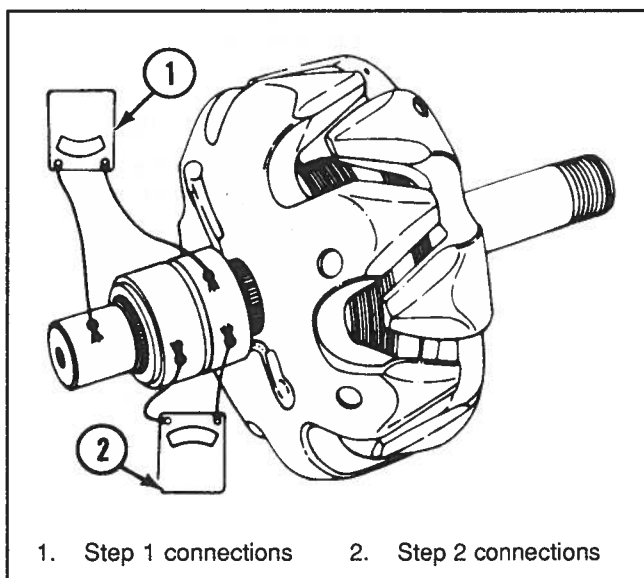

Figure 6-102. Testing Rotor
1. Test rotor-field circuit for grounds, using an ohmmeter set on Rx1 scale as follows (see Figure 6-102):